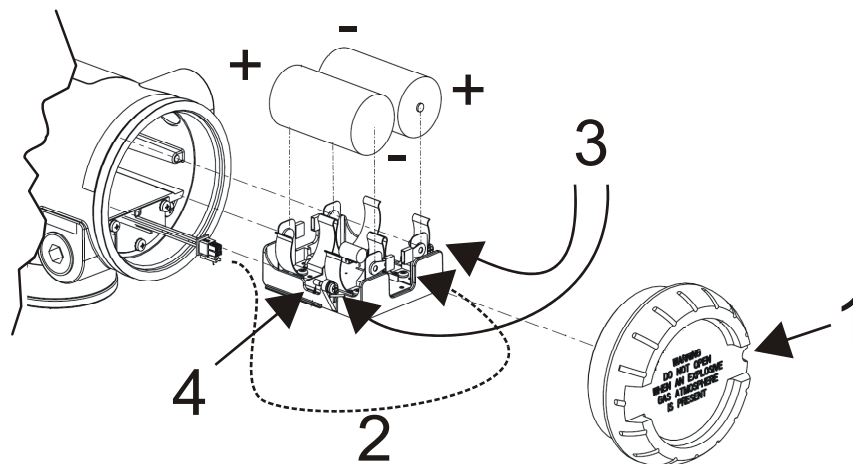

Figure 10 Battery replacement
1	Loosen the M3 locking set screw on the battery end-cap (opposite end from display). See item 1 in Figure 10. Unscrew and remove the end cap.
| 2    | Using thumb and forefinger, squeeze the battery connector at top and bottom to disengage the locking mechanism, then pull to disconnect. See item 2 in Figure 10.  |
| 3    | Loosen the two battery holder retaining screws (closest to the batteries). See item 3 in Figure 10. The screws are captive.  |
| 5    | Remove the old batteries from the battery holder. If needed, pry out the batteries by using a slotted screwdriver as a lever in the holder's side slots. See item 4 in Figure 10.  |